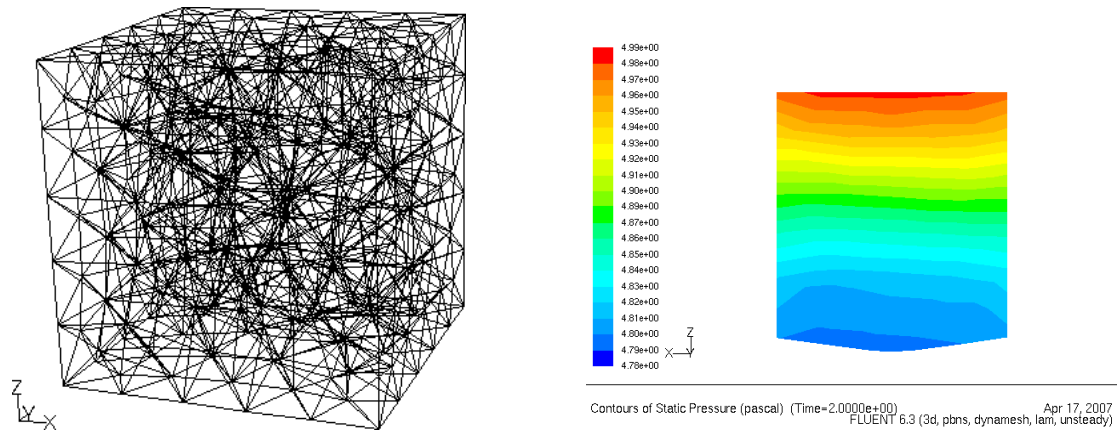

Figure 6: FLUENT mesh and result of the cube example.
- Now, FLUENT should perform 20 iterations while “foundation” finishes its computation. The FLUENT result is depicted in Figure 6. You should clearly recognize the deformation of the bottom where the elastic foundation is coupled.